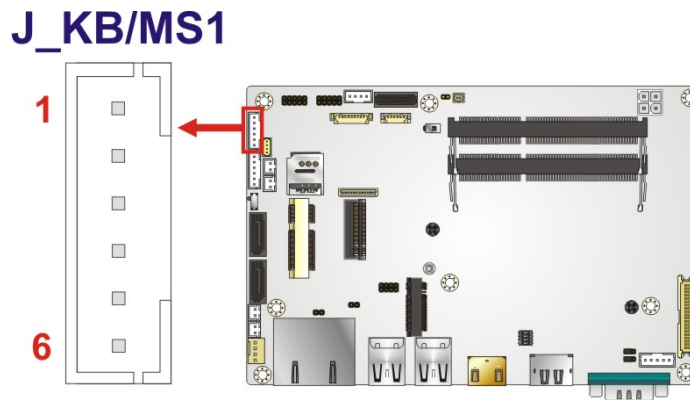

Figure 3-7: Keyboard and Mouse Connector Location
- CN Location:** See **Figure 3-7**